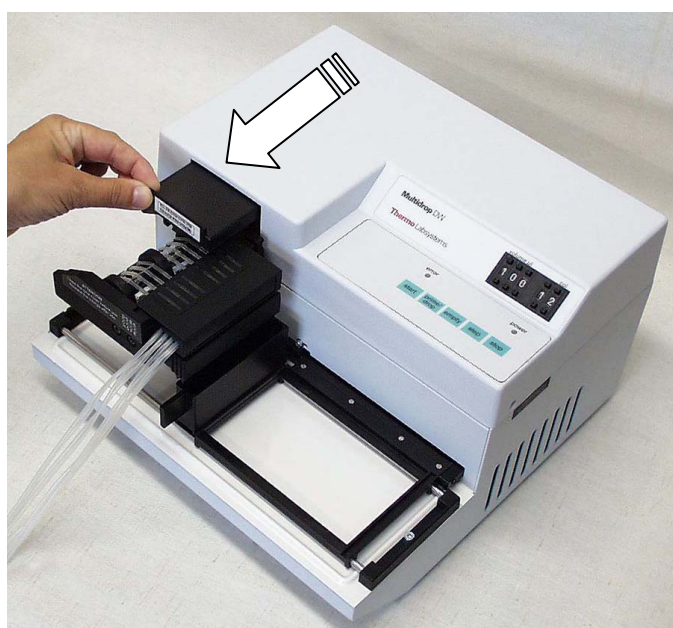

Fig. 6.6 Pulling the rotor cover over the rotor
8. **PULL THE ROTOR COVER OVER THE ROTOR** (*Fig. 6.6*). The plate carrier will then return to the furthest right of the instrument, that is, the home position. The microswitch controls that the cover is properly placed over the rotor. The Multidrop DW is now ready for priming.